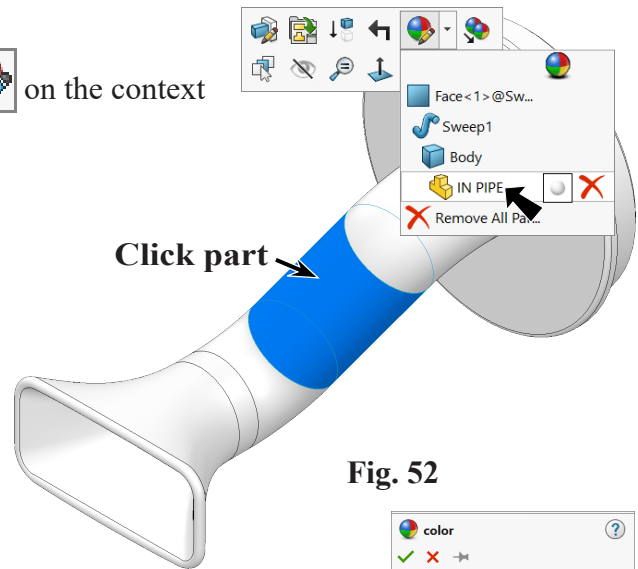

Fig. 52
Step 1. Click part, click **Appearance Callout**  on the context toolbar and click **IN PIPE** , Fig. 52.